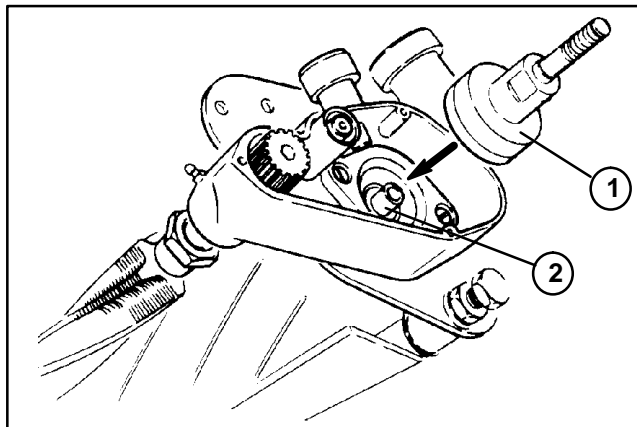

Figure 15
6. Remove clutch adapter from the reel shaft if necessary (Fig. 15).
2. If removed, reinstall clutch adapter to the reel shaft (Fig. 15). Torque clutch adapter to 17 ft–lb (2.4 kg–m).